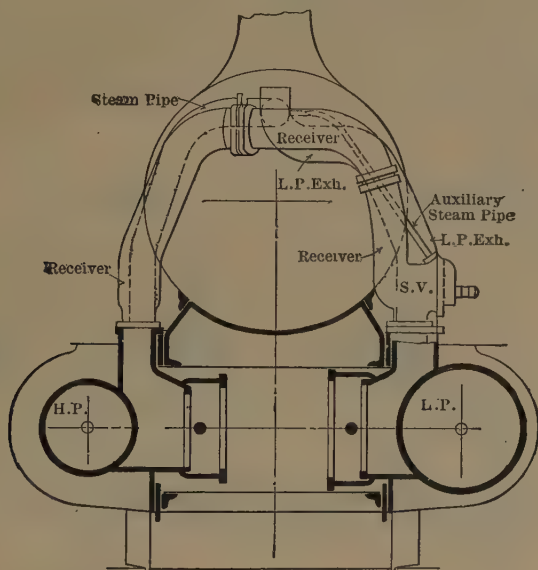

Fig 325 Two-Cylinder Compound.
A. (1) With automatic "interceptors" or starting gears but without independent H. P. exhaust for starting: the von Borries of 1899, the von Borries-Swiss, the Worsdell, the Schenectady (Pitkin), the Dean, the Brooks (Player), the Rogers, the Baldwin (Vauclain), and the intermediate types of von Borries.
(2) With automatic starter but no interceptor nor independent H. P. exhaust for starting: the Lindner, the Meyer-Lindner, the C. B. & Q. Lindner, the Pennsylvania Railroad Lindner, the Cooke, and the Gölsdorf.
(3) With interceptor and independent H. P. exhaust at starting: the Mallet (old and new), the Rhode Island (Batchellor), the Richmond (Mellin), the Pittsburg (Colvin), and the latest von Borries.
A. A combined intercepting and starting valve which, when the engine is working compound, permits steam to flow from the receiver pipe into which the high-pressure cylinder exhausts, to the low-pressure cylinder. There is a plate which in these circumstances stands off from the end of the receiver pipe, but on starting, is seated on that pipe-end; its movement uncovering ports which let steam from the boiler enter the low-pressure cylinder. As the engine starts, the high-pressure exhaust automatically forces this intercepting valve from its seat on the end of the receiver pipe, and closes the ports, which let boiler steam into the low-pressure cylinder, so that the engine then works compound. (See Figs. 325, 326, and 327.)